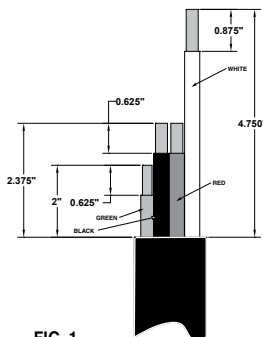

FIG. 1
1. Strip cable and wire sheath as shown in **Fig. 1**. Inspect wire sheath for nicks (cut and re-strip all if nicked).